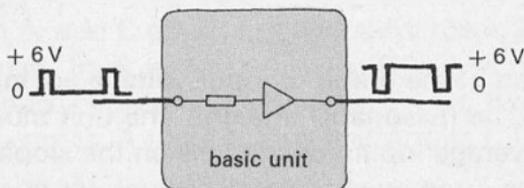

Figure 77
**11** Use a basic unit to turn short, sharp 0 V to 6 V pulses into short, sharp 6 V to 0 V gaps, as in figure 77.